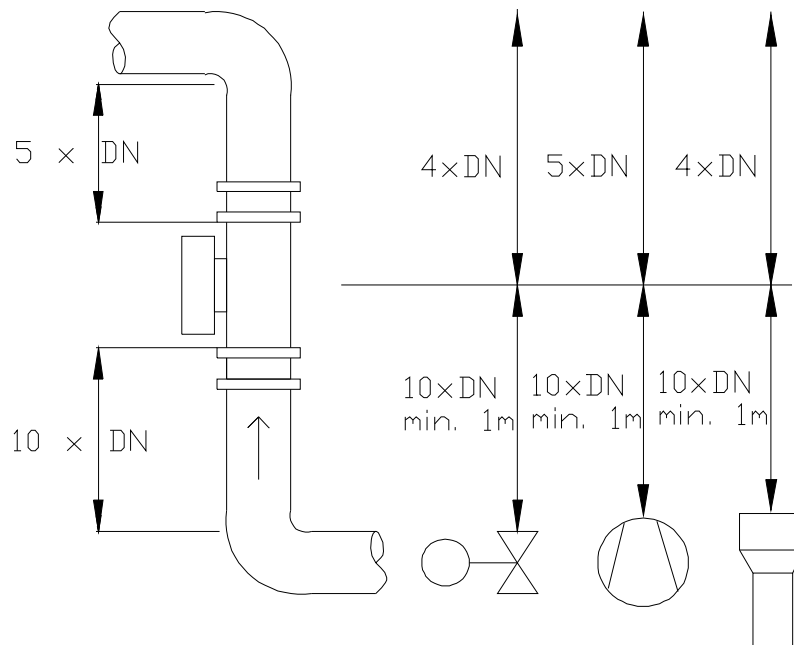

Fig. 3: Minimal distances of the sensor to pipe bends and baffles.
- Follow the necessary distances of valves, bows, fans or cellular wheel sluices etc. and also other measurement devices like temperature and pressure etc. to the sensor (see fig. 3).